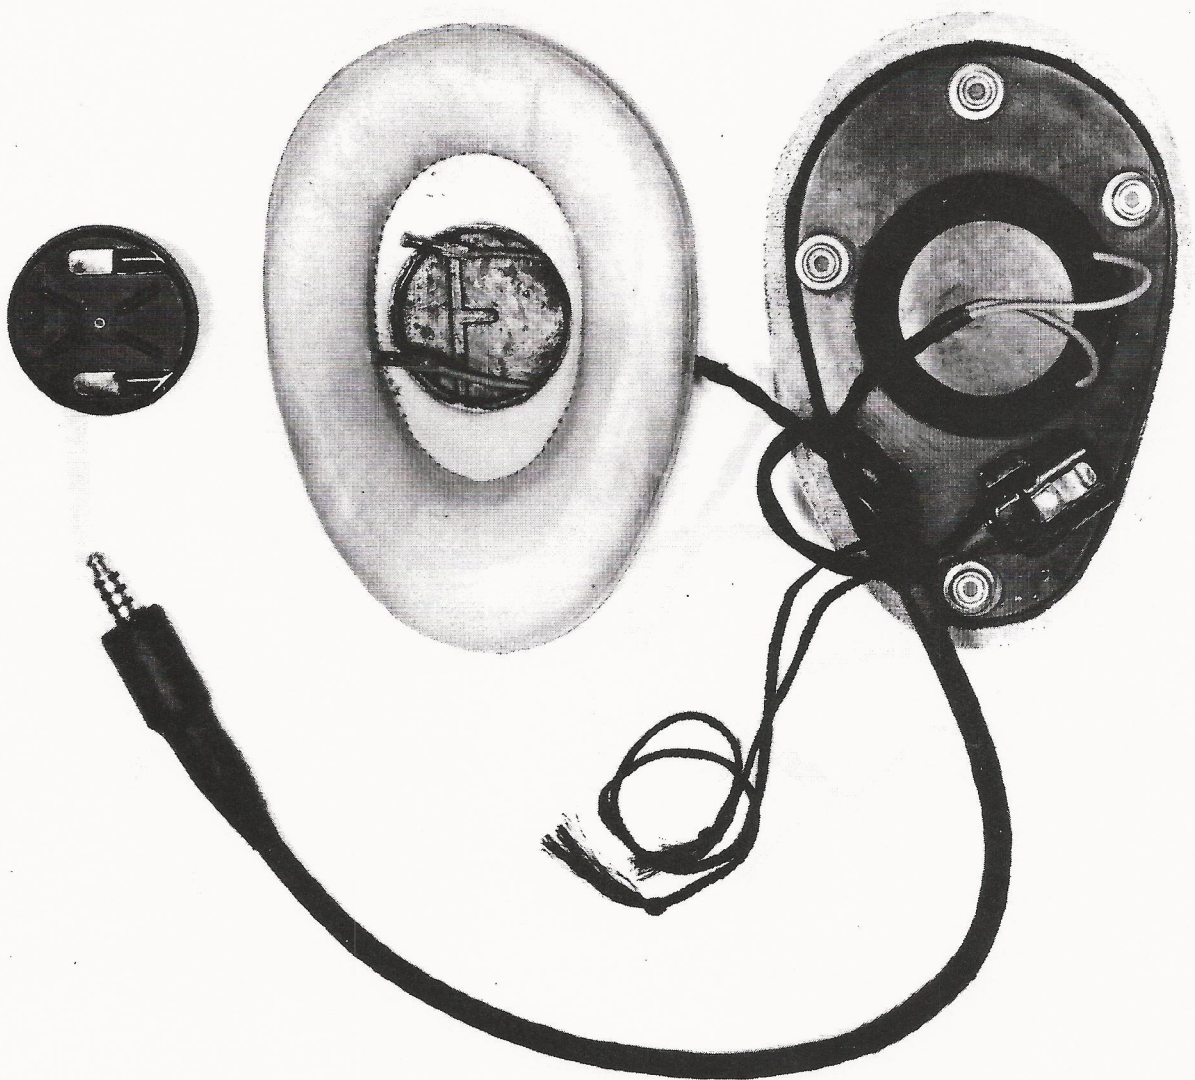

Fig.2 Type G helmet telephone lead connections
#### Assembling (Figs.2 and 3)
3.1 Feed the two wires for each telephone earpiece through the holes in the rubber mouldings (Fig.2).